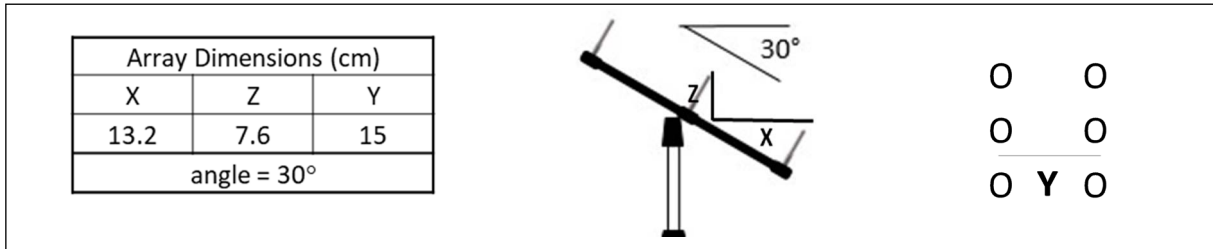

Figure A9 : Microphone array dimensions
Based on the experience and research of the committee, and following the original paper by Geddes and Blind [Blind 1984], the array dimensional recommendations are as given in Figure A9 below. For background, see the discussion in appendix (X)